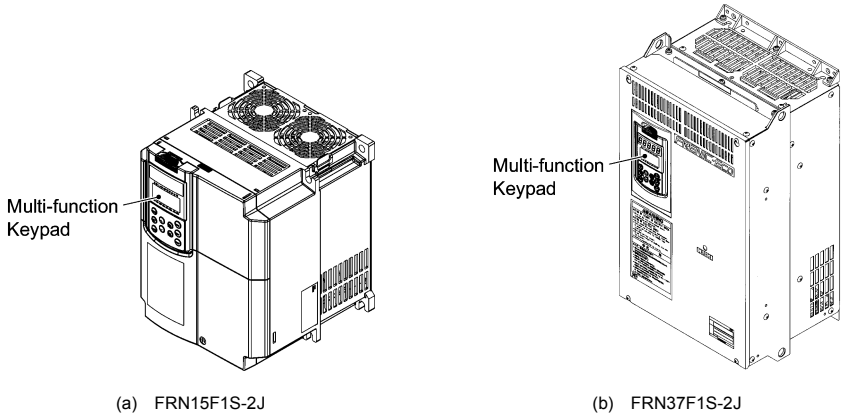

Figure 2.1 Installing Multi-function Keypad Directly on Inverter
- Install it directly on the inverter (see Figure 2.1).